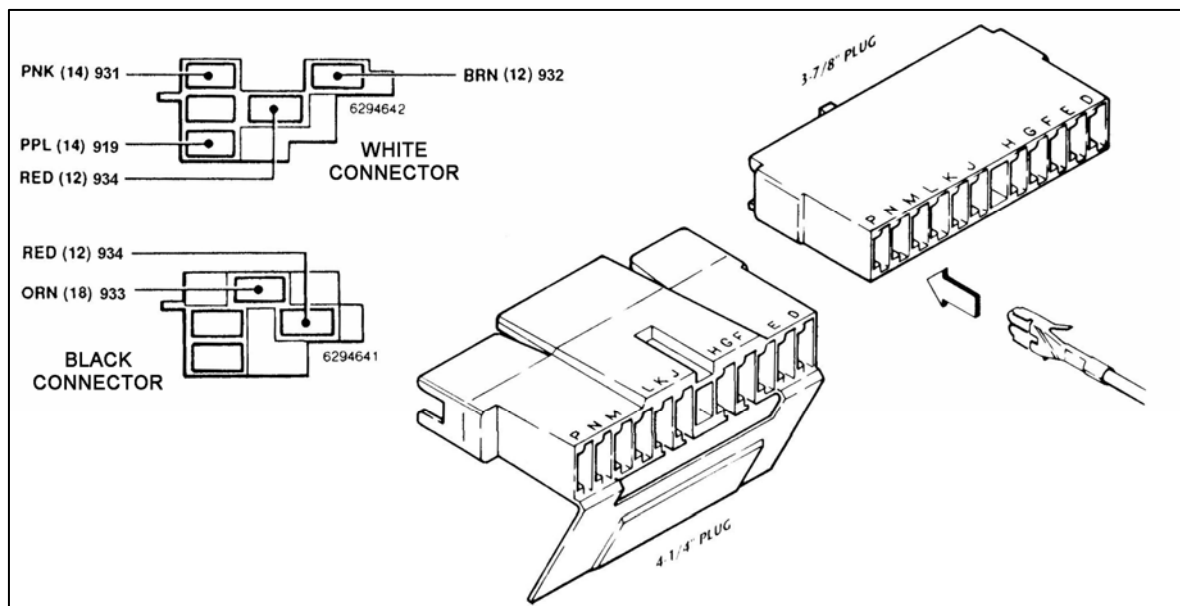

Figure 8-5 GM Turn Signal Connectors
- 8.4.1 There are two different plugs on most tilt columns. The difference is in the length of the male plug that is mounted ON THE COLUMN. One plug is 3-7/8" (3.875") long and the other is 4-1/4" (4.250"). This is only a difference of 3/8" (0.375"), so measure the plug carefully. The Wire Harness Kit has included two different female connectors to mate with the column-mounted plug. See **Figure 8-5** to determine which female connector is correct for your automobile.
The TURN SIGNAL SECTION wires may have already been terminated for you. If not, cut wires to length and install the terminals provided. Choose the proper plug and install the terminals according to **Table 8-1**, as shown in **Figure 8-5**. The GM wire color codes have been included for reference. **Note:** *The terminals will only insert into the connector ONE WAY, as shown in **Figure 8-5**. Make certain you are inserting the wire into the CORRECT LOCATION as the terminals are difficult if not impossible to remove once inserted.*